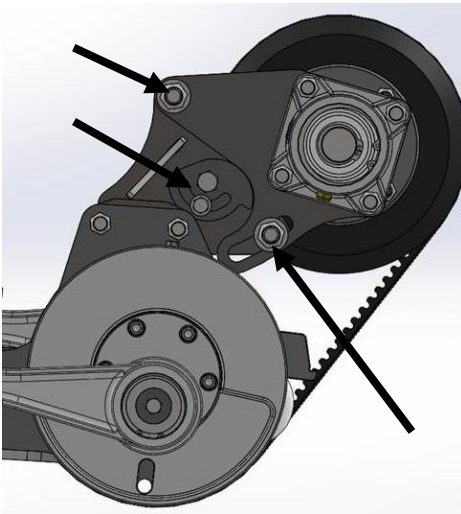

Figure 60
3. Loosen the lock nut and lock bolt but do not remove. Loosen the top bolt. Figure 60